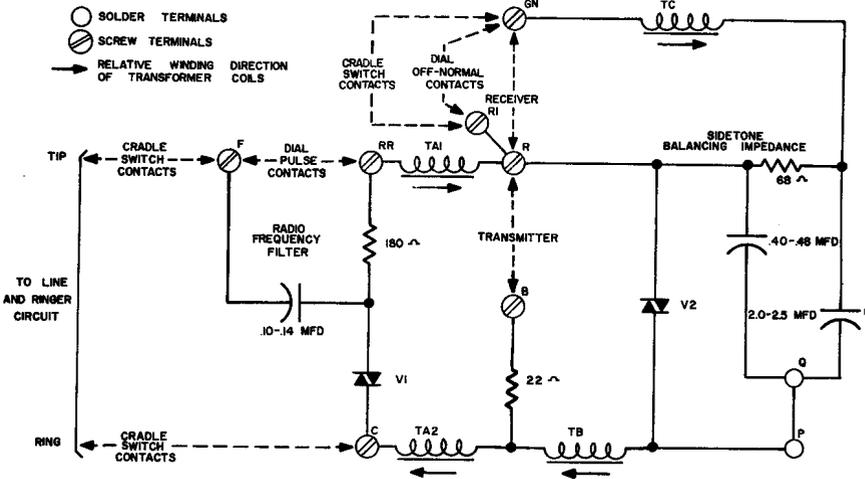
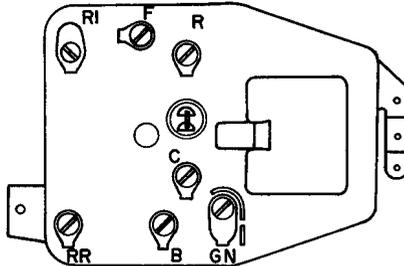

FIGURE 4 CIRCUIT DIAGRAM
FIGURE 5 TERMINAL BOARD LAYOUT
7.01 The circuit is shown in Figure 4, the dash lines show typical connections to other components of a complete telephone instrument. The features of the circuit are briefly discussed in the following paragraphs.
- b. The direction of winding of the four coils of the transformer is indicated by arrows in Figure 4. Received speech currents pass via windings TA1, TB and TA2, each of which produces an additive voltage in winding TC. The received currents also produce a voltage across the 68Ω resistor that opposes and is almost equal to that produced by the induced voltages in winding TC. There is, therefore, very little power loss in the resistor and varistor and maximum power in the receiver. The low impedance of the transmitter is matched to the loop by the turn of winding TB to winding TA1 and TA2.
- 8.01 Thorough testing of the network assembly can only be performed with elaborate test equipment. An adequate check on performance, for maintenance purposes, is to compare a suspected unit with a known good unit by substitution. Resistance and capacitance checks can be carried out between many of the terminals, as can be seen from Figure 4. Note that the soldered connection between terminals P and Q can be opened to permit testing of the two network capacitors. Figure 5 shows the layout of the terminal board of the assembly.